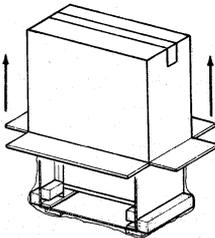

Fig. 6—Pedestal Carton Lifted Up
3.06 Turn carton and its contents upright. Lift carton up and off of pedestal (Fig. 6).